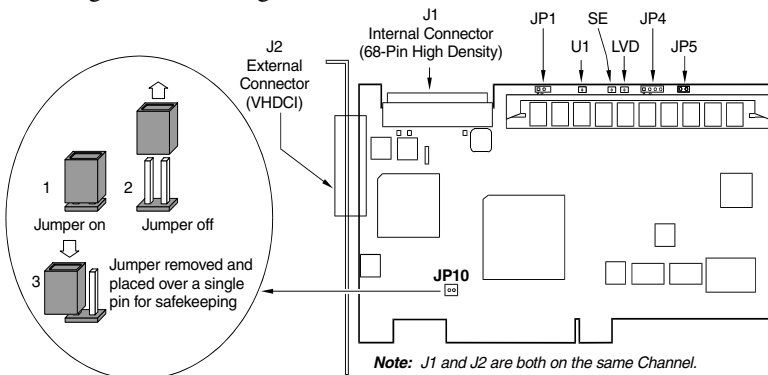
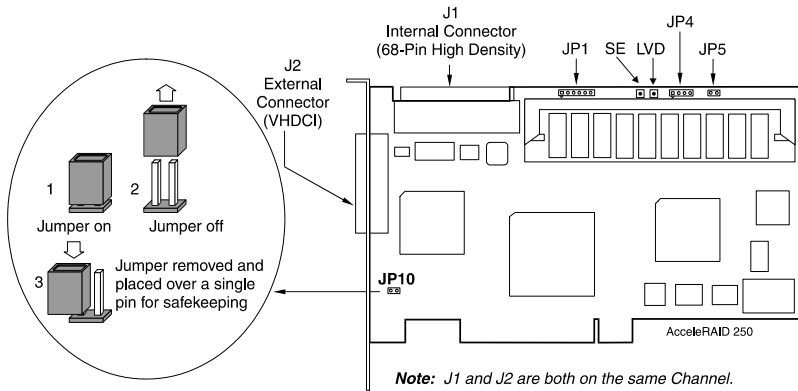

Figure 1. AcceleRAID 150 with Component Locations
Figure 2. AcceleRAID 250 with Component Locations
2. If JP10 on the AcceleRAID 150 or 250 is installed, remove it, as shown in Figure 1 and in Figure 2.
2. If JP10 on the AcceleRAID 150 or 250 is not installed, install it, as shown in Figure 1 and Figure 2.